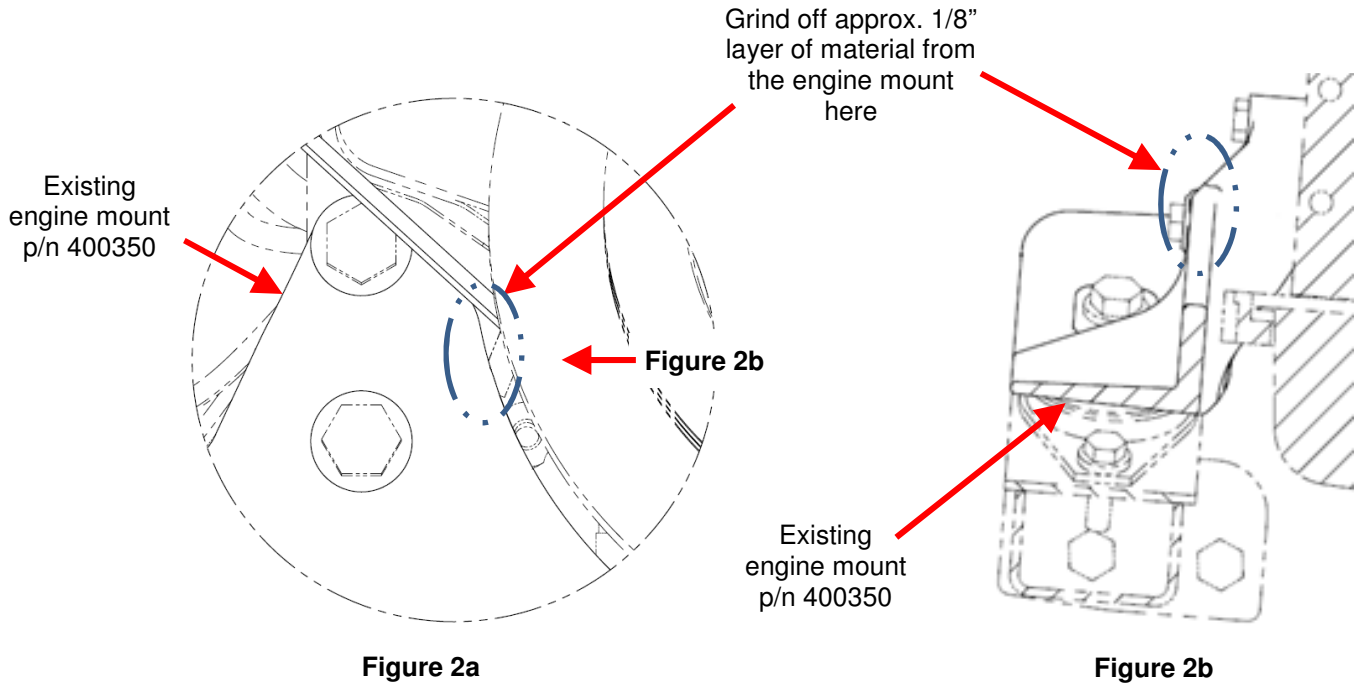

Figure 2: Water Pump Belt Interference Location
7. Release the belt tension, remove and save the water pump belt for re-installation. See Figure 2.
8. Grind off approx. 1/8" layer of material from the engine mount at the location of the belt interference, see Figure 2. Ensure that the finished surfaces are smooth and the corners are round. Apply a coat of zinc primer p/n 638699 to any bare metal once complete.